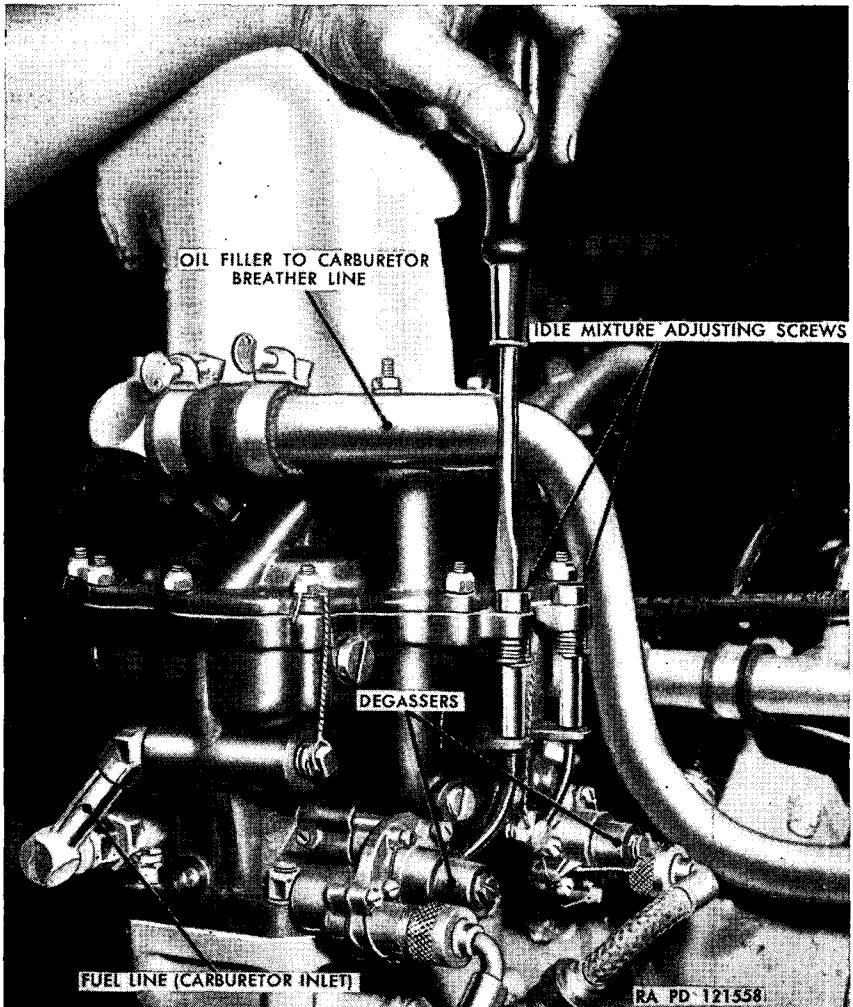

Figure 142. Adjusting idle mixture—right carburetor.
- (2) *Carburetor idle mixture.* Adjust the carburetor idle mixture with the engine stopped. Turn each of the idle mixture adjusting screws (fig. 142) on both carburetors clockwise until they seat lightly.